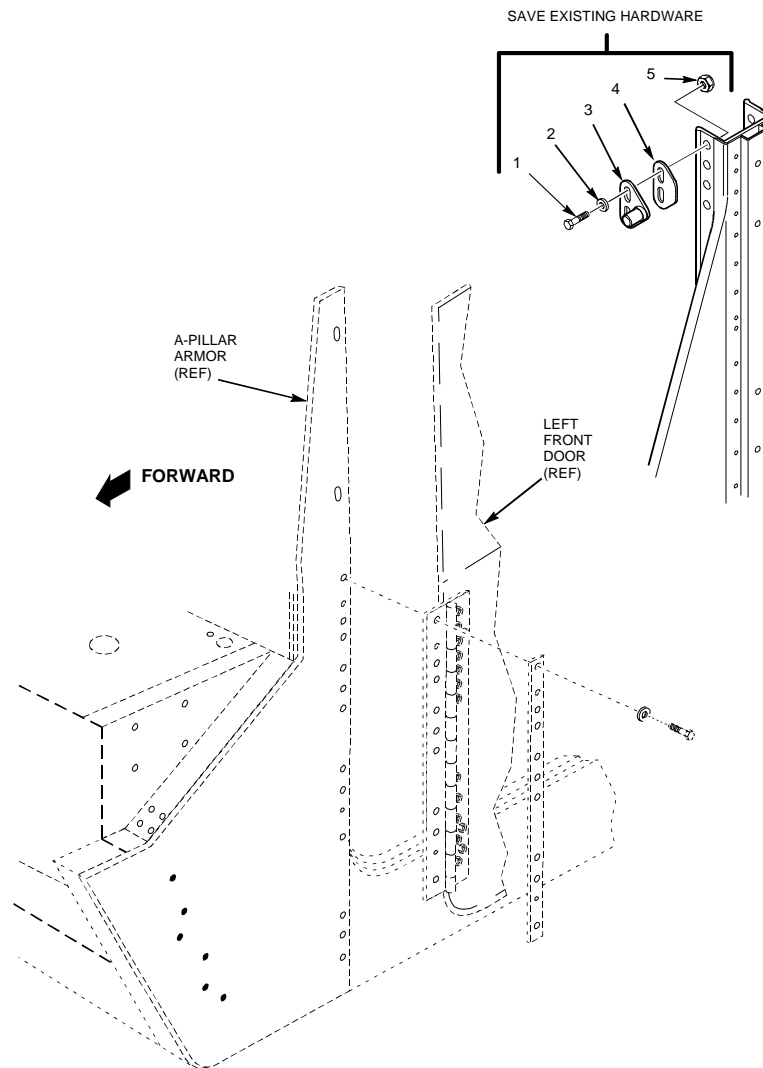

Figure 2-7. Left Front Door Striker Removal (2 and 4 Door)
1. Remove left front door striker (see figure 2-7).
- a. Remove two capscrews (1), washers (2), and locknuts (5) securing striker (3) with shims(s) (4).
- b. Remove striker (3) and shim(s) (4).
- c. Retain parts. Do not discard capscrews (1), washers (2), and locknuts (5) securing striker (3) or shims(s) (4).